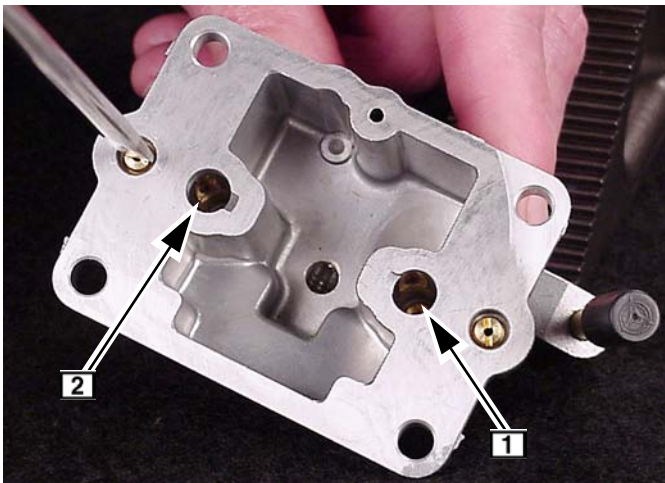

Fig. 133
7. Install main jets and pilot jets, Fig. 133.